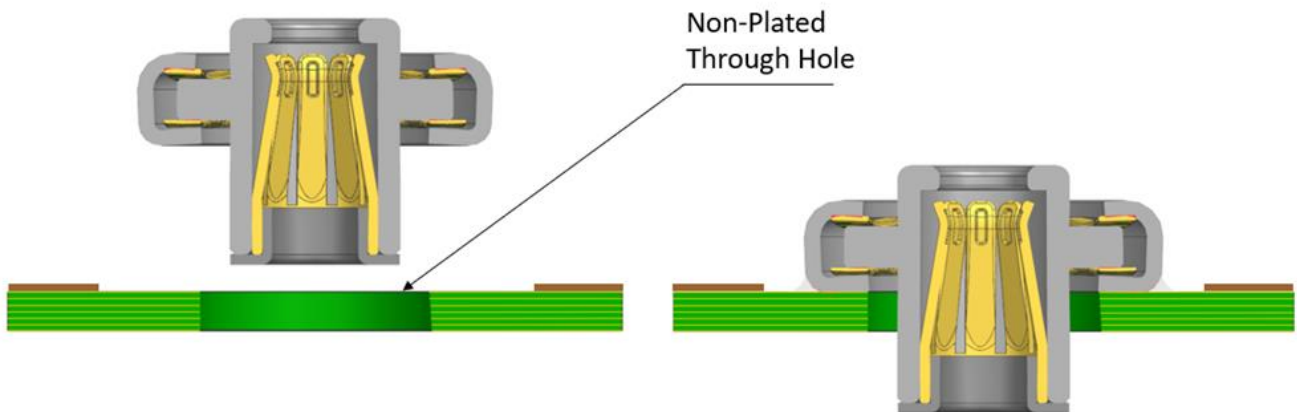

Figure 5.4.2
- b. If in case, covering the plated through hole is not possible, then it is recommended to use non plated through hole (NPTH). However, all the copper layers should be connected via thermal vias. Reference is shown in figure 5.4.2